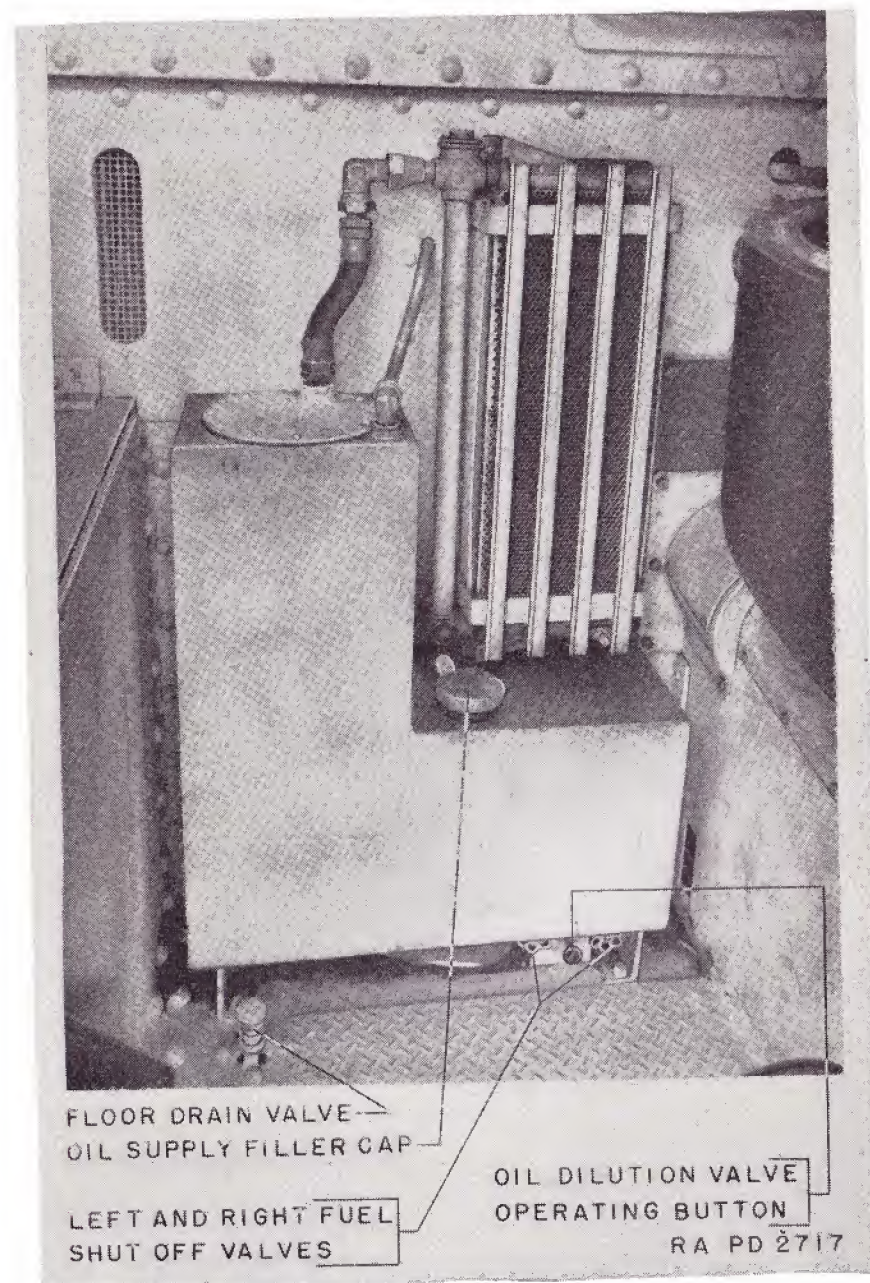

FIGURE 11.—Oil tank and cooler.
d. The oil tank (fig. 11) is filled through the filler hole on the tank. The cap for this hole is fitted with a bayonet gage which indicates
valve operating button, which is located under the engine oil tank (fig. 11). The button opens the gasoline valve and allows gasoline to mix with the oil. The period of time to hold the valve open will depend on the temperature. To determine the period of time to hold the valve open, estimate the lowest temperature anticipated at the next engine starting. Find this temperature in the table given